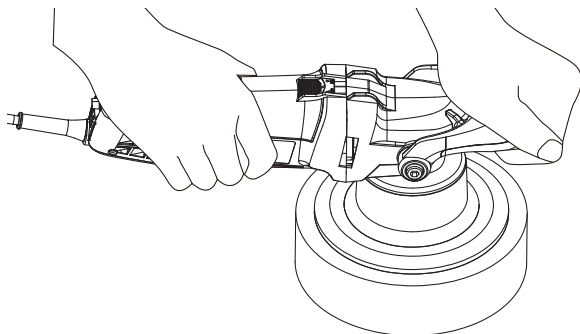

Figure 6
4. HAND GRIP AREAS (SEE FIG. 6)